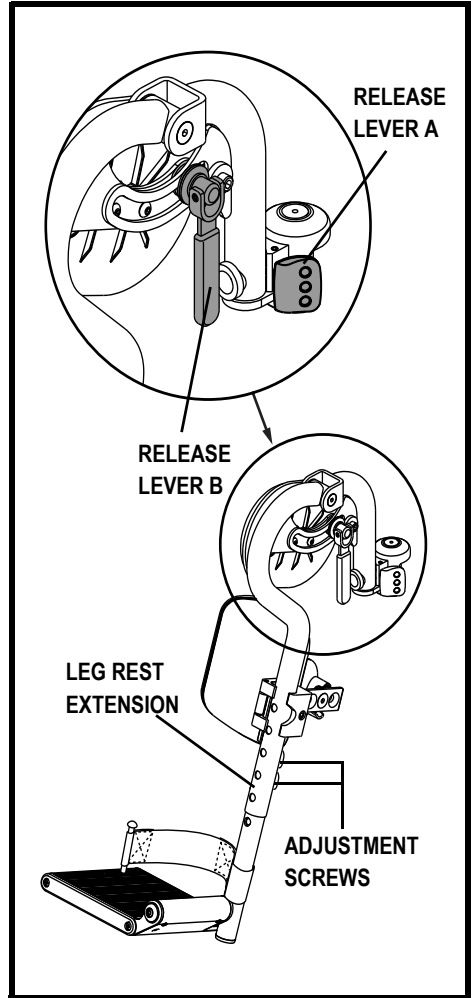

Figure 8. International Style #14 Elevating Leg Rests
1. Pull up on release lever B. **See figure 8.**